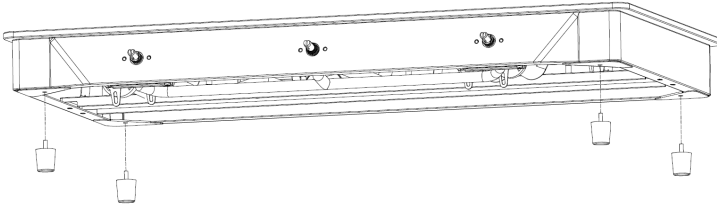

Figure 1
1. After opening the carton, fix four legs on the four corner plates as the diagram (Figure 1) shows.